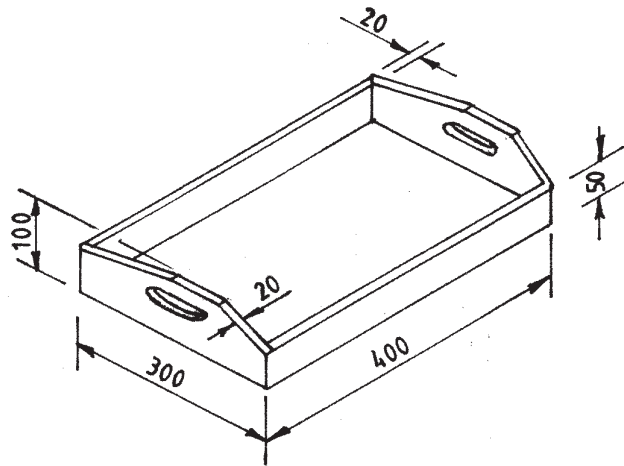

Figure 4
- (c) Figure 4 shows a wooden tray made of cypress and a 3 mm thick plywood bottom.